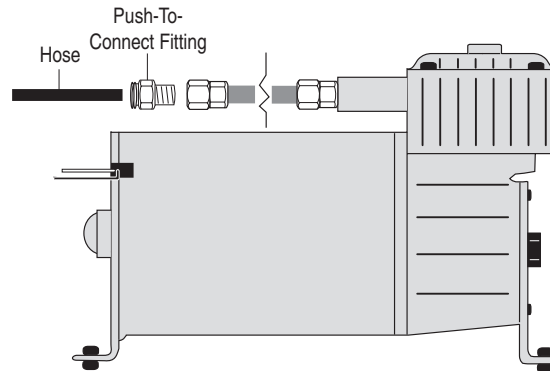

fig. 4
6. Install the fitting into the pressure port side of the leader hose (Figure 4).
6. Install the air line into the air line fitting previously installed on the compressor (Fig. 4).